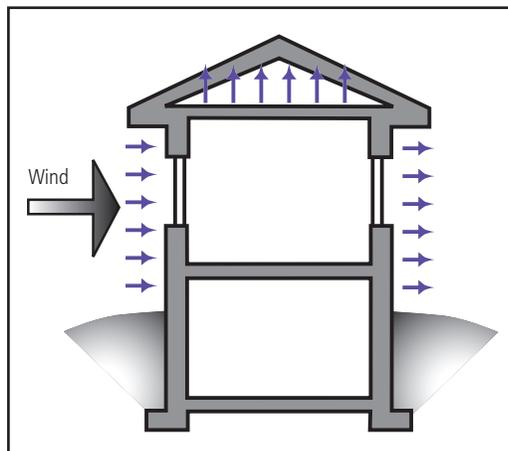

Fig. E-36: Wind effect
- Wind: Probably the greatest influence to unwanted airflows through the building (see Figure E-36).